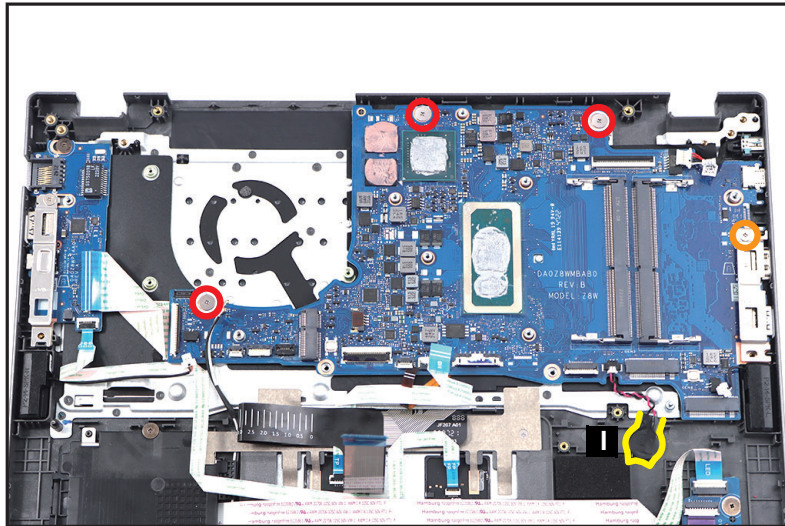

Figure 1-32. Mainboard Removal
9. Remove four (4) screws securing the mainboard in place (Figure 1-32).
10. Using plastic tweezers, carefully pry to detach the adhesive tape underneath the RTC battery (I) and then remove the RTC battery (Figure 1-32).